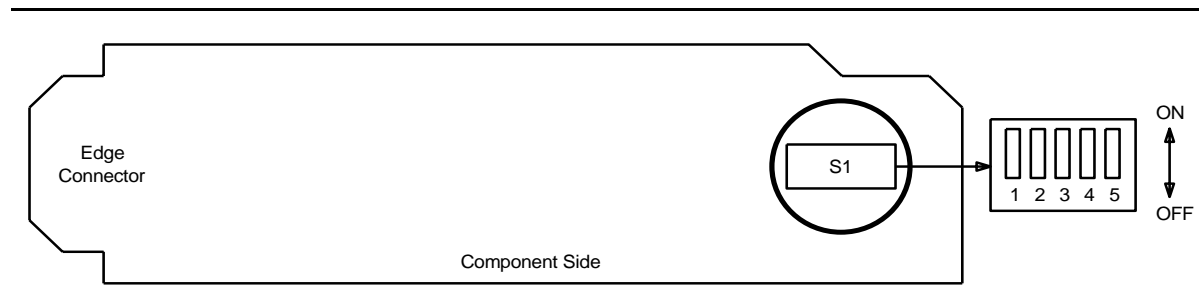

Figure 8 – BBF6 T1EXT Option Settings
52. Set **T1EXT** option switches per Table N and Figure 8.